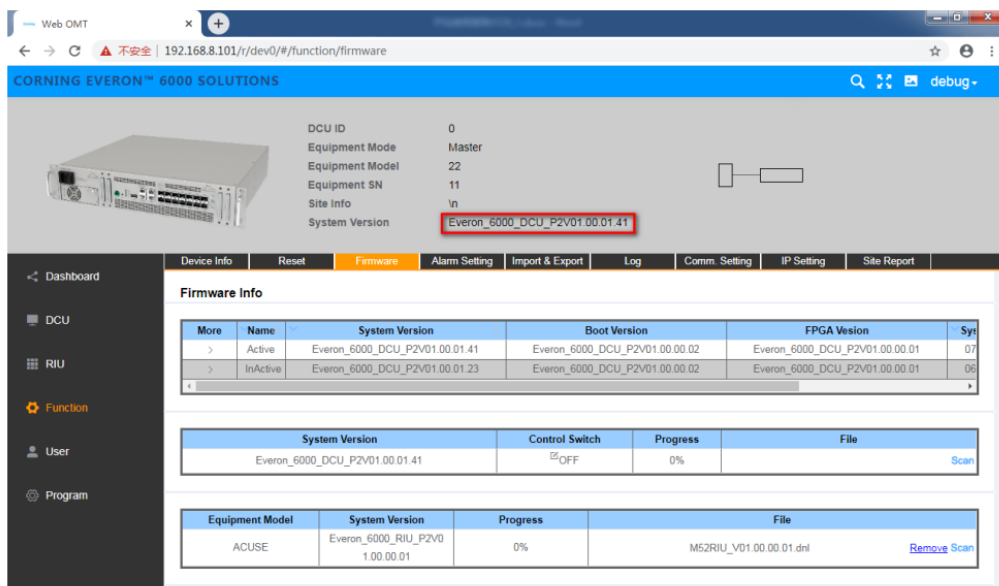

Figure 5.2-4 DCU software query
Step5: After the device upgrade and reset is completed, as shown in figure 5.2-4, the software version number of the DCU network element is Everon_6000_DCU_P2V01. 00.01.41 indicates that the software of the DCU network element has been upgraded.